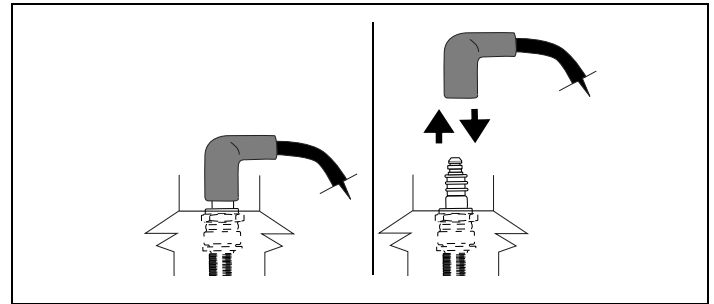

Figure 38. Disconnecting/Connecting Spark Plug
1. Carefully disconnect spark plug wire and keep it away from spark plug. See Figures 38 and 39. See "G. Avoid Accidental Starts" instructions on page 2. Afterward, continue reading instructions below.
15. Carefully disconnect spark plug wire from grounding post, if provided. See Figures 38 and 39 on page 18. See "G. Avoid Accidental Starts" instructions on page 2. Afterward, continue reading instructions below.
16. Connect spark plug wire to spark plug before attempting to start engine. See Figures 38 and 39 on page 18.